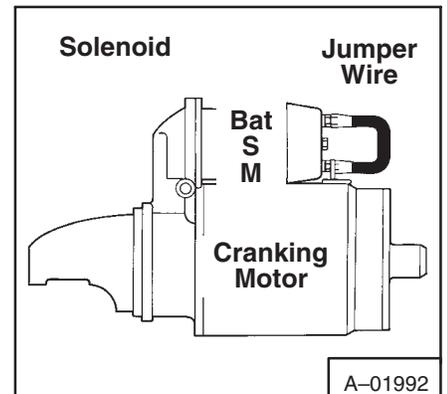

Fig. 6-28 Checking Solenoid
3. Connect a jumper wire between the M connection and the BAT connection (Fig. 6-28). If the starter turns, the defect is in the solenoid. If the starter does not turn, the defect is in the starter.